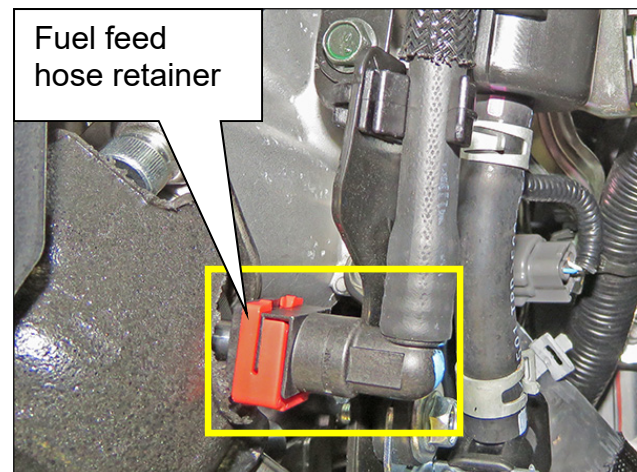

Figure 3
3. Locate the fuel feed hose retainer shown in Figure 3.